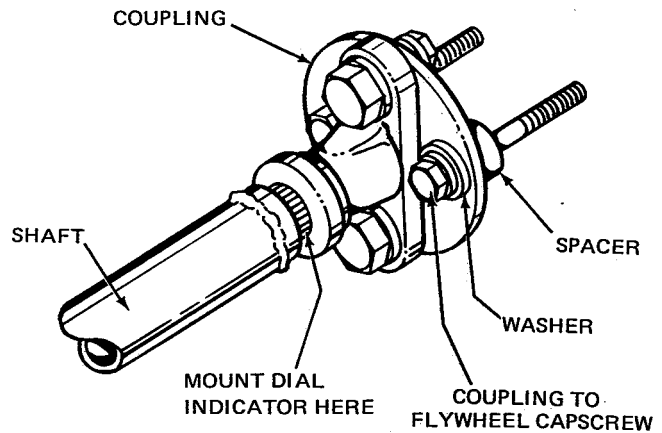

Figure 16. Rear PTO Coupling Installation
7. Loosely attach coupling (Figure 16) to flywheel through upper input pulley with two 3/8-16 x 3-1/2*inch capscrews, washers, and spacers. Apply Loctite to capscrews before installation.
8. Using a dial indicator, check shaft (Figure 16) for runout of no more than 0.025 of an inch at location indicated in Figure 16.